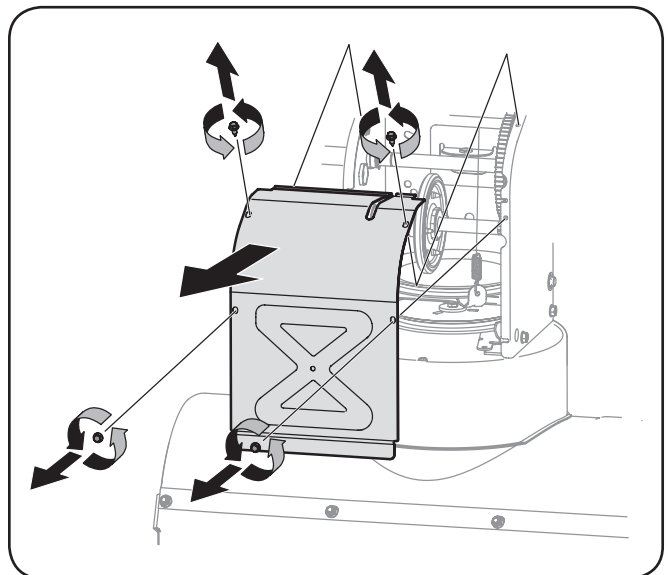

Figure 7-3
3. Remove the frame cover from the underside of the snow thrower by removing the self-tapping screws which secure it. Refer to Figure 7-3.
5. Remove the frame cover from the underside of the snow thrower by removing the self-tapping screws which secure it. See Figure 7-3.
3. Remove the frame cover from the underside of the snow thrower by removing four self-tapping screws which secure it. Refer to Figure 7-3.